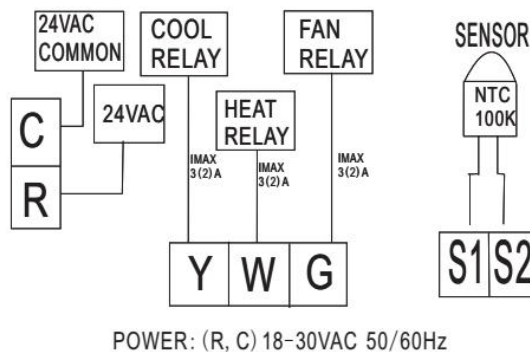

Figure 4
2. Connect wires beneath terminal screws on power supply module using appropriate wiring schematic. See figure 4 .
5. Replace control panel on the power base and fix power base and control panel by removed two screws in item 1.